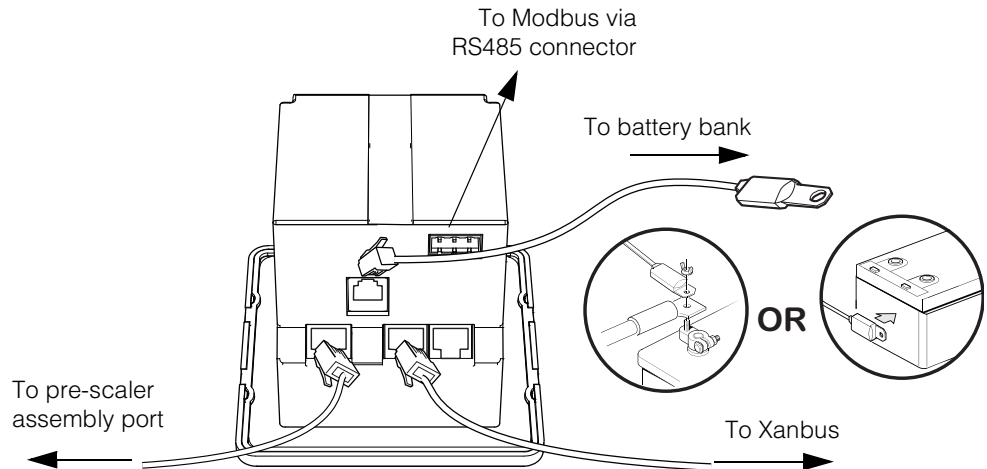

Figure 2-9 Wiring the Battery Monitor
The Pre-scaler board is connected to the Battery Monitor using the orange RJ45 cable provided. Plug the RJ45 cable directly to the port on the Pre-scaler board then to the Battery Monitor as indicated in Figure 2-9, “Wiring the Battery Monitor” on page 2-17.
1. Connect the RJ11 connector to the back of the Battery Monitor as indicated in Figure 2-9, "Wiring the Battery Monitor" on page 2-17.